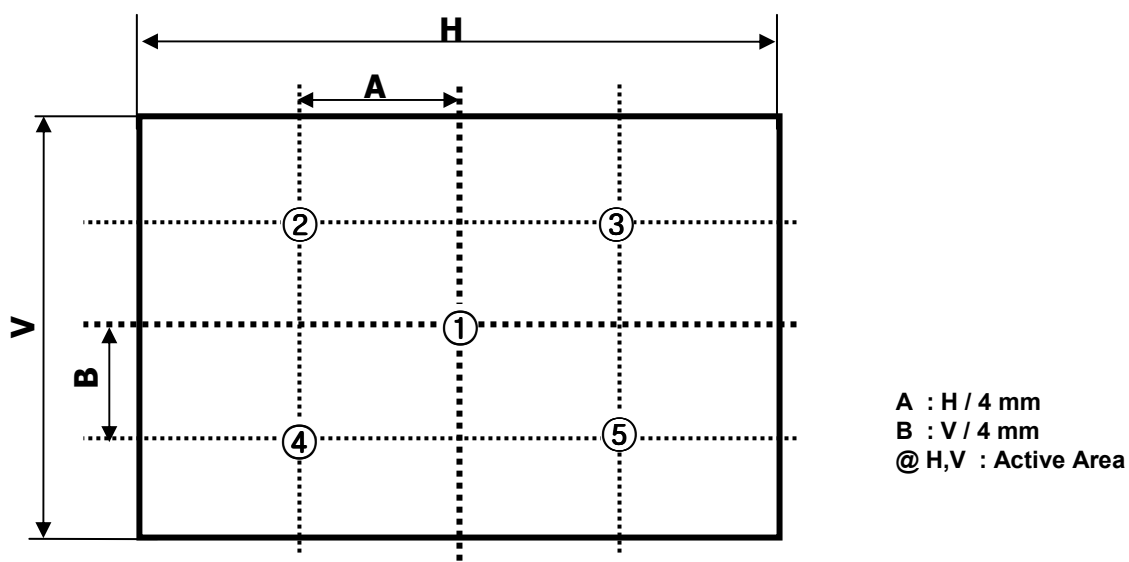

FIG. 2 5 Points for Luminance Measure
n = the Position number(1, 2, 3, 4, 5). For more information, see FIG. 2.
2. Surface luminance are determined after the unit has been 'ON' and 1 Hour after lighting the backlight in a dark environment at $25 \pm 2^\circ\text{C}$. Surface luminance is the luminance value at center 1-point across the LCD surface 50cm from the surface with all pixels displaying white. For more information see the FIG. 2.
For more information, see the FIG. 2.